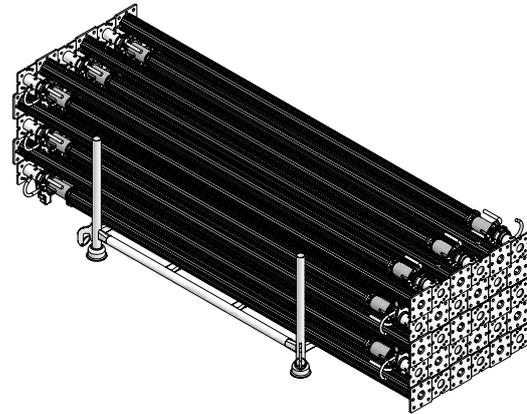

Fig. 36.2 MEP props 450 in piling rack
■ 30 MEP props 450: 1060 kg (Fig. 36.2).